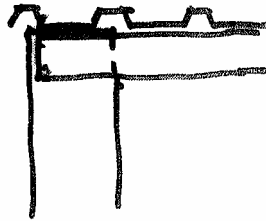

Figure 10.7 – Remove the problem
- ❖ Alternatively, remove the parapet and cover the wall with the roof, if this fits in with the total design. *Fig10.7*